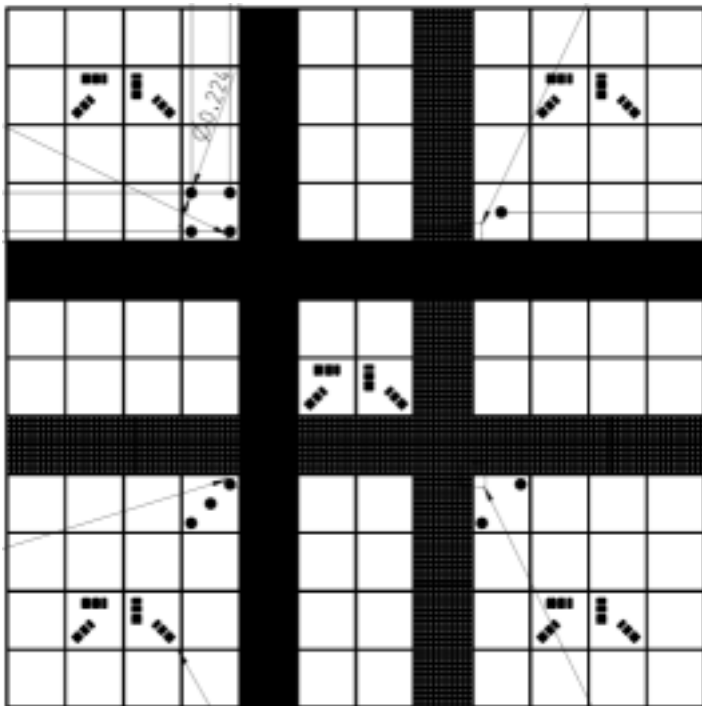

Fig. 6-46 Calibration objective
- Calibration objectives with other samples than shown in Fig. 6-46 shall not be used. The cap with the calibration sample can be obtained separately under SAP-No. 420639-9900-700.